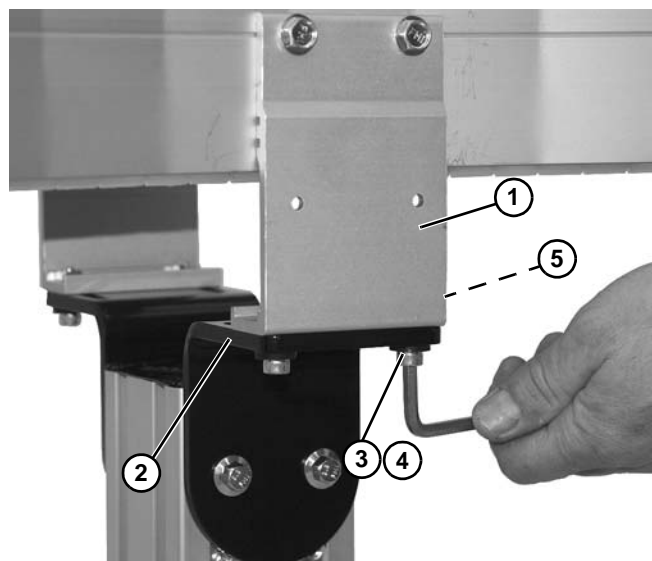

Figure 16
4. Fasten brackets (Figure 16, item 1) to support stand (Figure 16, item 2) with mounting screws (Figure 16, item 3), washers (Figure 16, item 4) and nuts (Figure 16, item 5).
5. Tighten screws (Figure 16, item 3) to 60 in-lb (7 Nm).